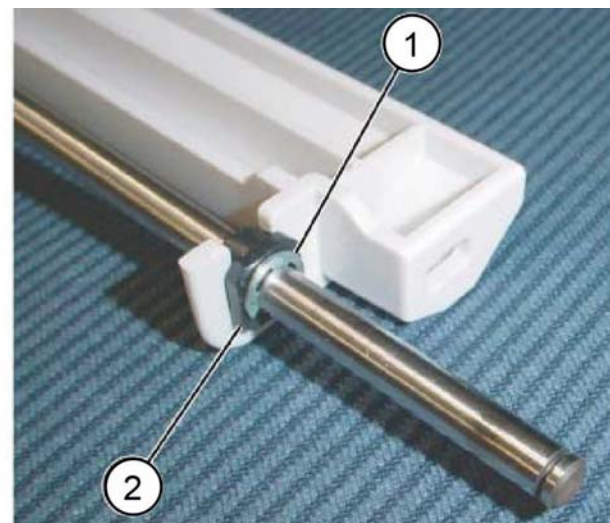

Figure 6 Bearing removal
8. Remove the bearing, Figure 6:
a. Remove the E-clip (1).
b. Remove the bearing (2).